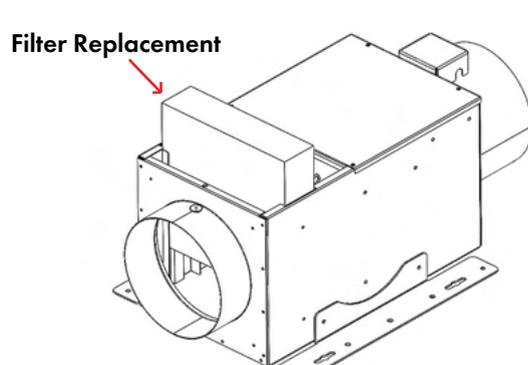

Figure 11
- Remove filter from ventilator (Figure 11).